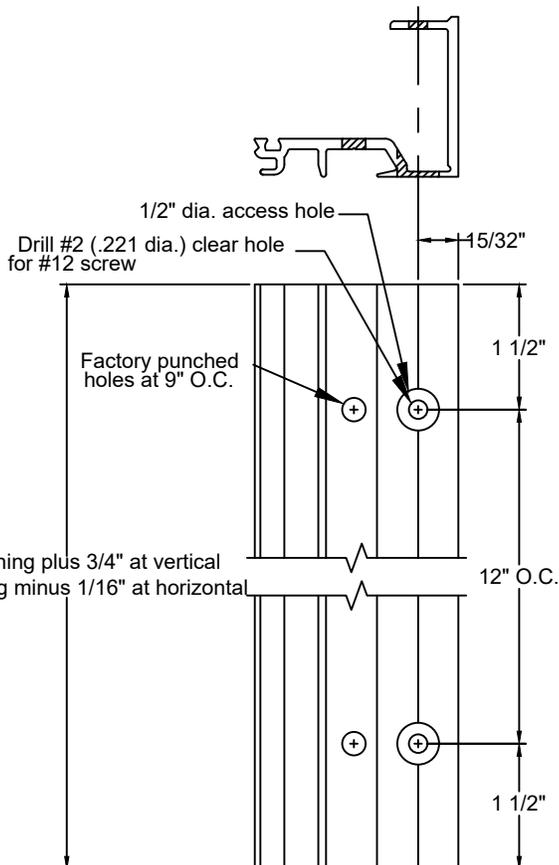

Figure 36
- C.3.1 Drill 1/2" diameter access holes in flush door pressure plates 1 1/2" from ends and 12" O.C. SEE FIGURE 36.
- C.3.2 Attach TH-44 threshold clip to bottom of each vertical pressure plate with two (2) FS-256 #8 x 1 1/2" Phillips Round Head screws.